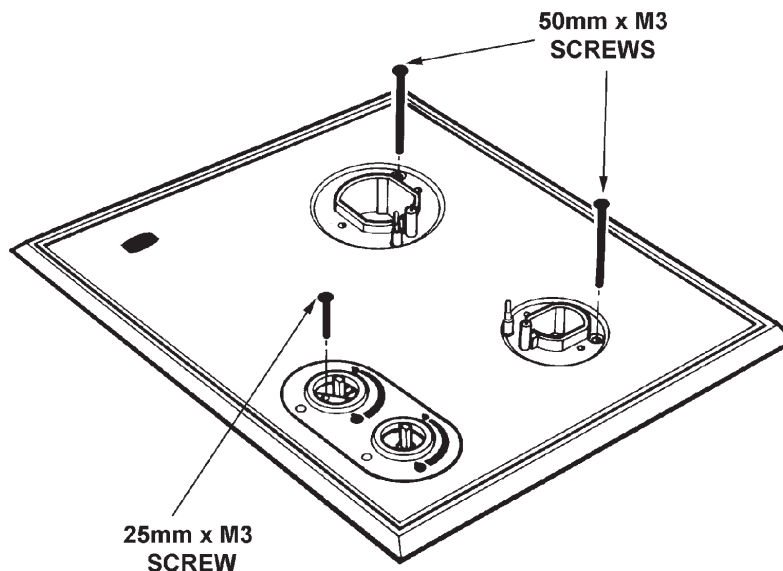

Fig. 13
20. Lower the hob surface gently over the chassis. Adjust the spring plates until they fit accurately over each burner. Secure hob surface plate with three securing screws. (See Fig. 13). The two 50mm M3 screws should now be fitted through both the clearance hole in the spring plates, and the hole in the triangular fittings on the underside of the hob surface plate, and into the M3 nut on the burner mounting bracket. The 25mm M3 screw fits through the hole in the metal bracket that is visible through the rear control hole into the nut clipped to the tap mounting bracket. Ensure that the burners are central in the holes in the glass. Tighten the three screws until the hob surface plate is adequately secure to ensure a seal all round. **DO NOT OVERTIGHTEN.**